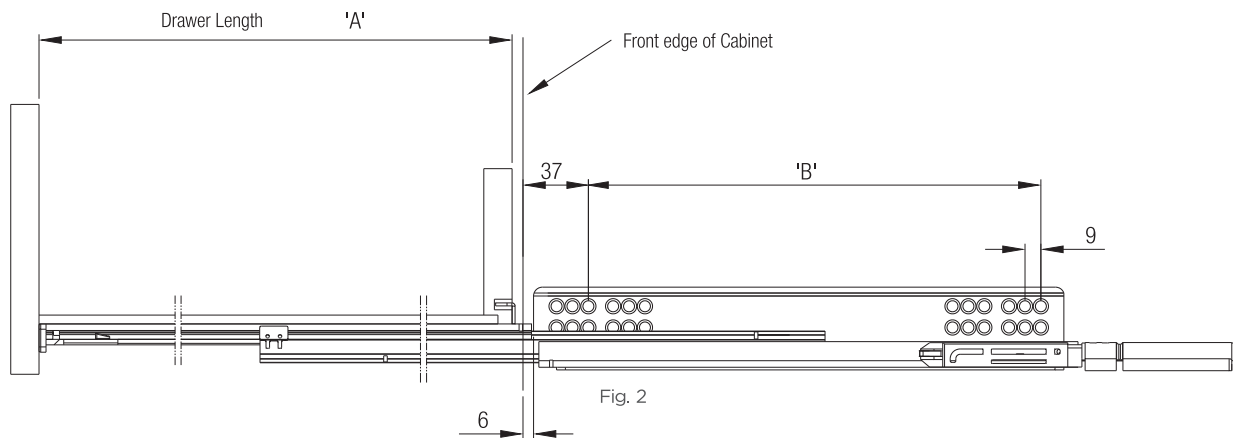

Fig. 2
3. Fix the Mounting brackets of slide parallel and at equal height inside the cabinet leaving 6mm from the front edge of the cabinet as shown in Fig. 2.